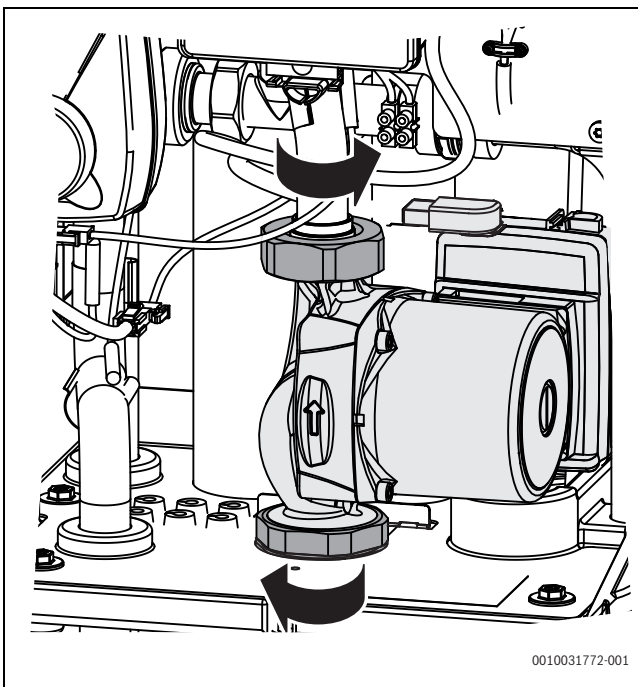

Fig. 40 Undo union nuts
- ▶ Undo union nuts at the pump then remove the pump and gaskets (→ Fig. 40). As you do so, counterhold at the coupling points using a suitable tool.